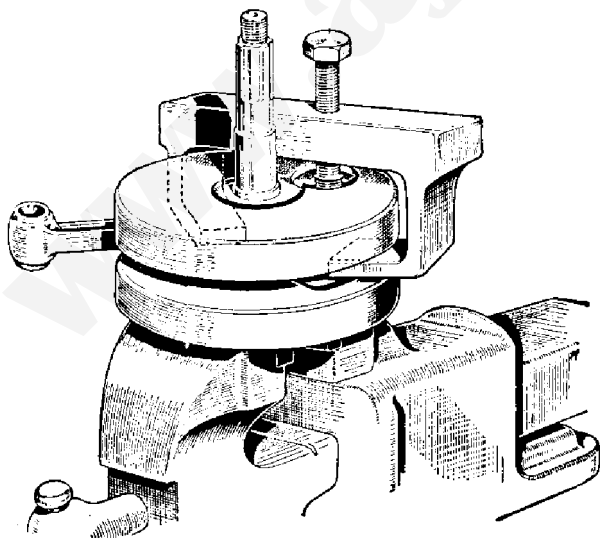

FIG. 37
**Dismantling the flywheels.** A flywheel separating tool B2140 is shown in Fig. 37. With one crank pin nut removed, place the tool over the flywheel, correctly position the draw bolt, screwing in the draw bolt will pull the flywheel away from the crank pin. Remove the second nut and repeat the process.